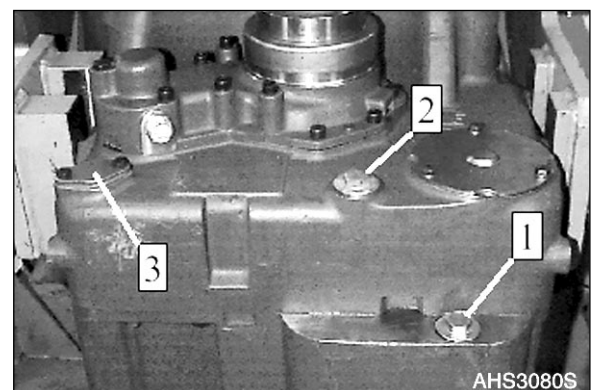

Figure 360
- Equip screw plugs (1 and 2, Figure 360) with new O-ring and install them.
- Mount gasket and fasten cover plate (3, Figure 360) using hex. head screws.